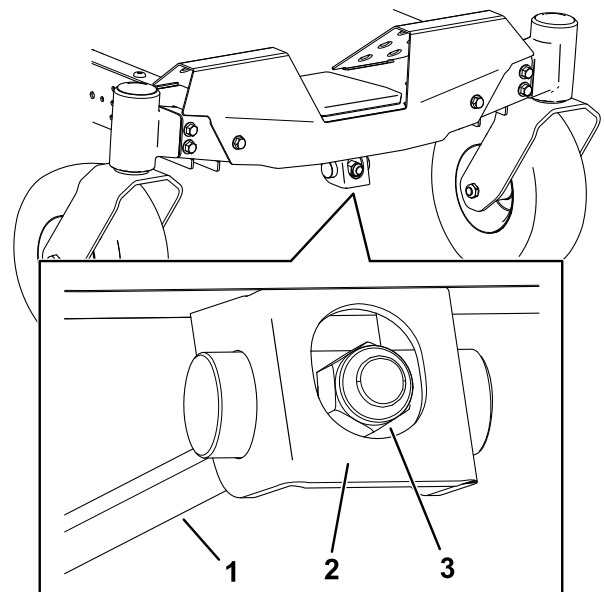

Figure 69
1. Rotate the adjustment nut in the front of the mower (Figure 69).